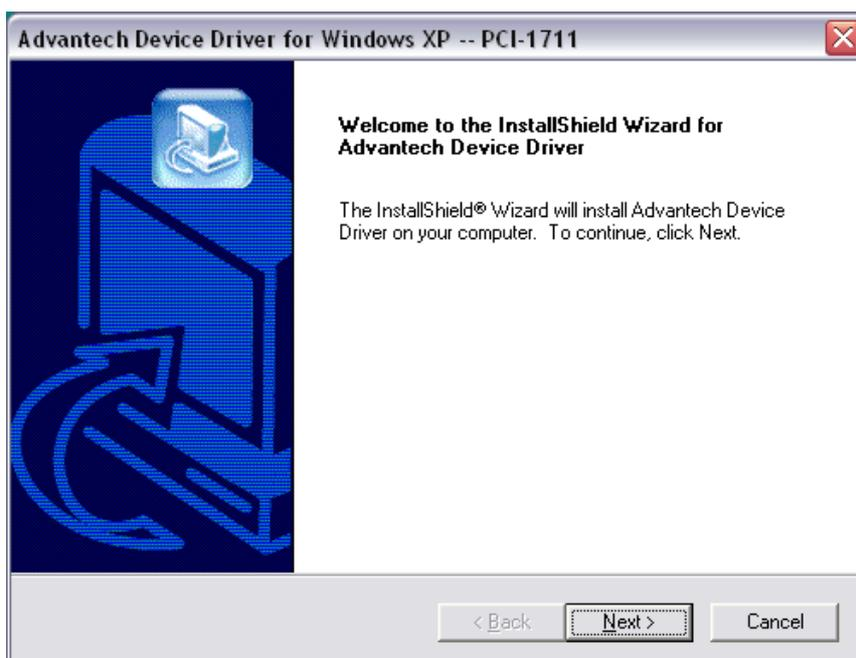

Figure 13 PCI-1711 Driver Installation Window
13. Select the 'PCI-1711'. The driver installer will open in a new window (Figure 13).